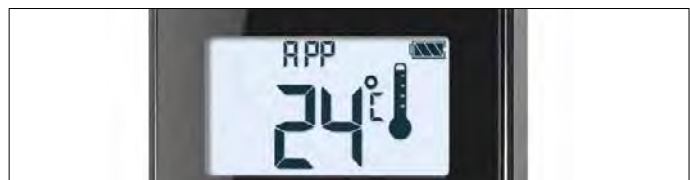

Figure 27: App connected (in Thermostatic Mode)
- If Thermostatic, Program, or Eco Mode is activated using the App, the corresponding icon and "APP" is displayed on the Symax (see figure 27, page 25).